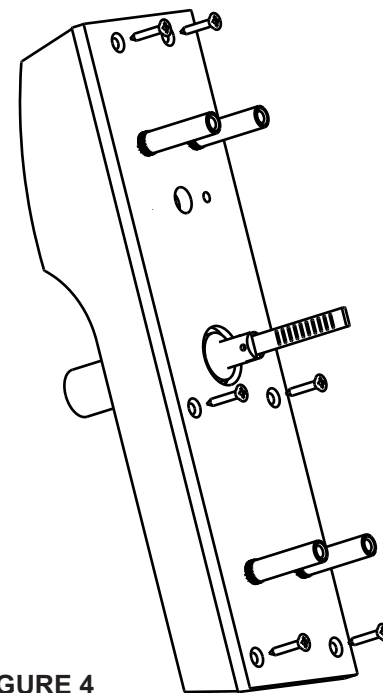

FIGURE 4
After the spindle is converted, the Conversion Mounting Plate must be installed. With the studs in the plate facing up (figure 4) align the mounting holes in the plate with the threaded holes in the trim. Start all (6) M4-0.7 screws. After all screws are started secure all six. The trim part of the conversion is now complete.